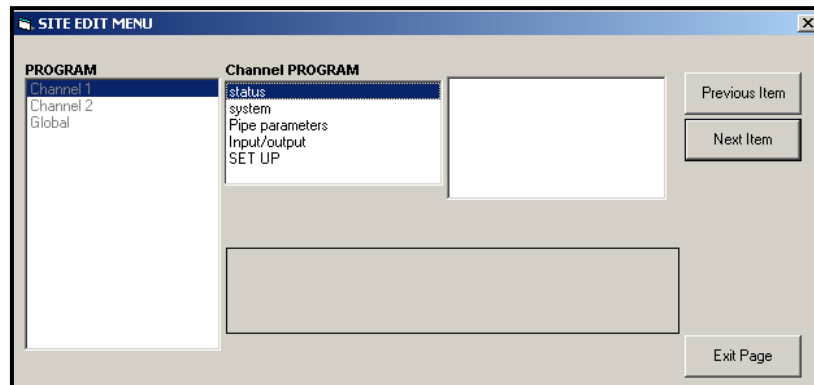

Figure 42: The *Site Edit Menu* Window
3. To enter data into the user program, double-click on the *Site Edit Menu*. The window appears similar to Figure 42.
4. To enter a particular menu (Channel 1, Channel 2, or Global), highlight and double-click on the desired menu in the left pane. For example, clicking on Channel 1 in Figure 42 opens the list of options shown in the center pane.
3. Double-click on the desired option. PanaView returns to the Channel menu shown in Figure 42 on page 26. Proceed to the System option.
- If you have activated neither option, PanaView returns to the Channel PROGRAM window shown in Figure 42 on page 26. Proceed to the Pipe option.
- If you have not enabled the option, PanaView returns to the Channel PROGRAM window shown in Figure 42 on page 26. Proceed to the Pipe option.